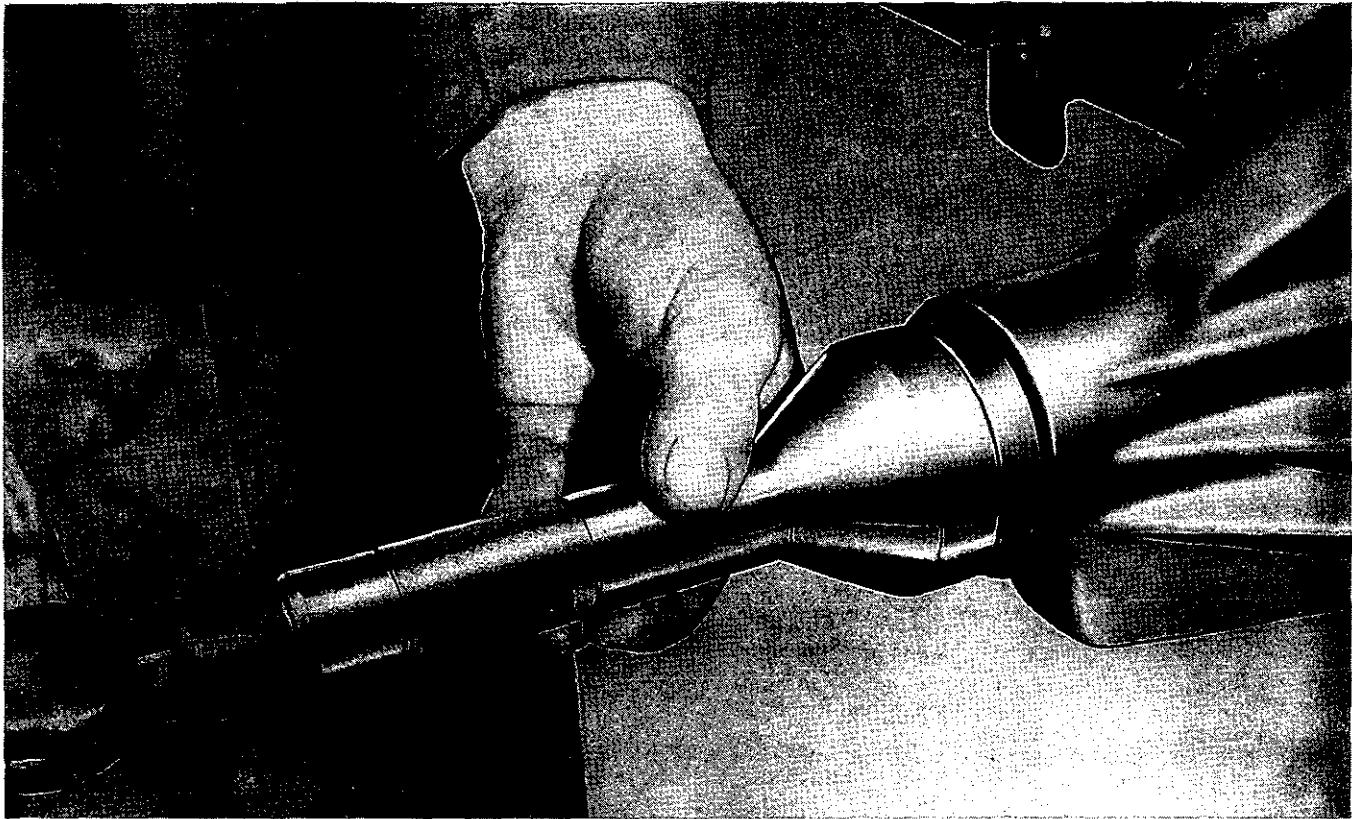

Fig. 23. Fitting Pinion Oil Seal—Tool No. M.100.
2. Pinion oil seal damaged or worn. Where this difficulty arises a new seal should be installed, care being taken to protect its fabric face and a proper installing tool as shown in Fig. 23 should be employed.